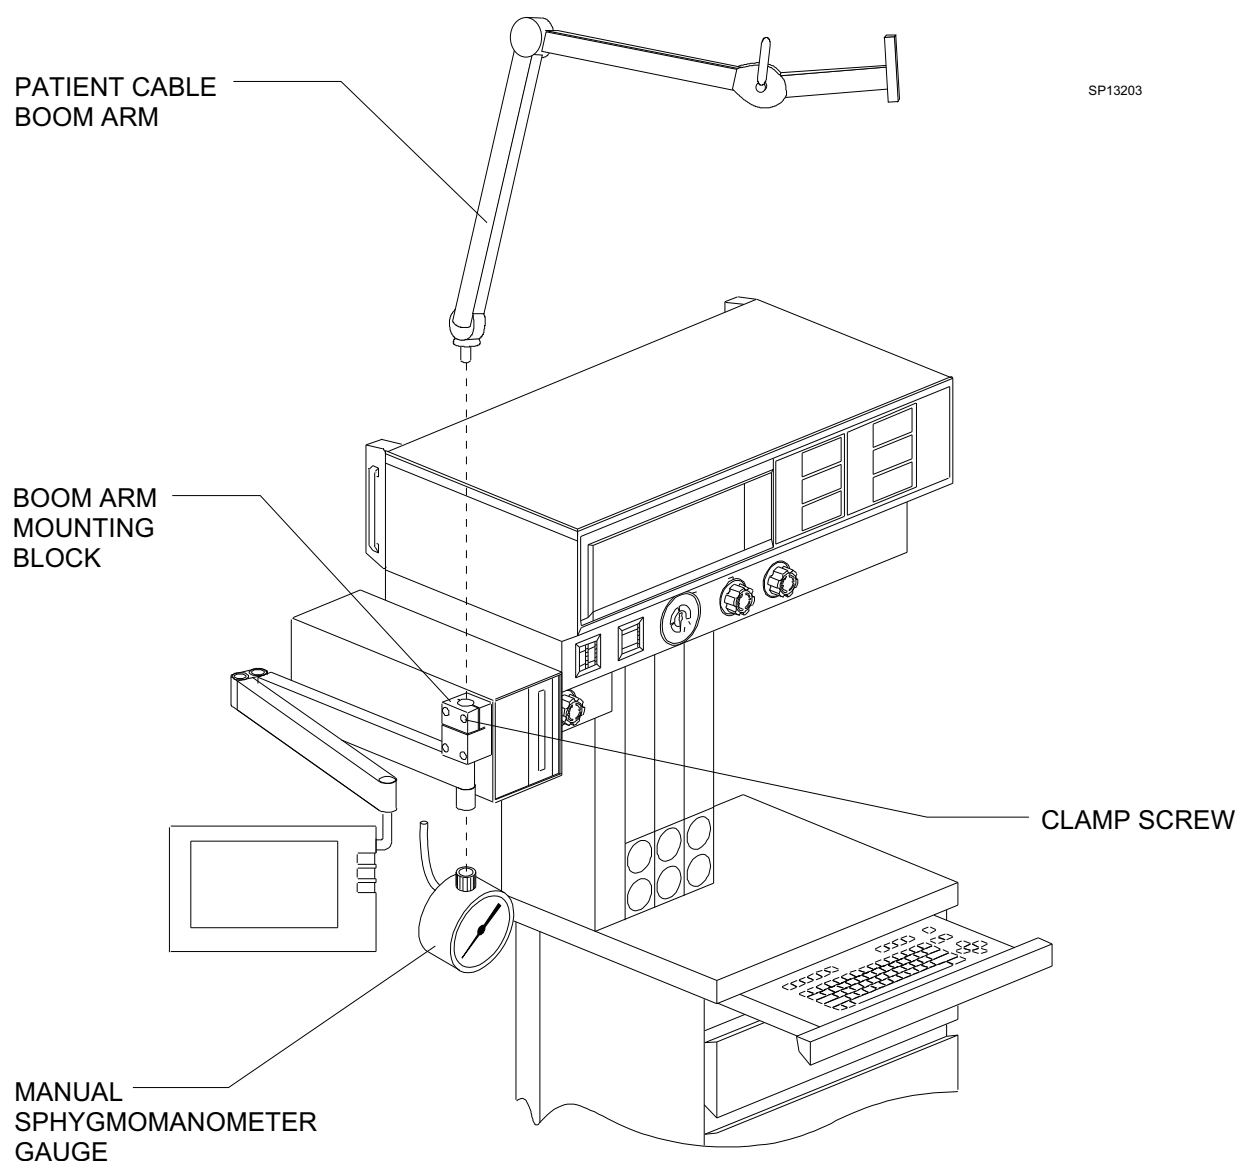

Figure 3: SPHYGMOMANOMETER GAUGE AND UPPER BOOM ARM REMOVAL
10. Loosen the clamp screw in the boom arm mounting block, and remove the patient cable (upper) boom arm. See Figure 3.